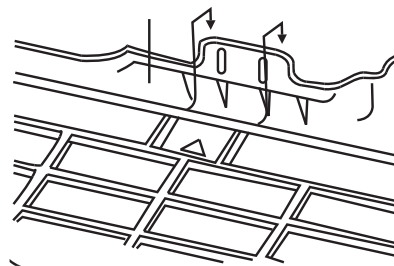
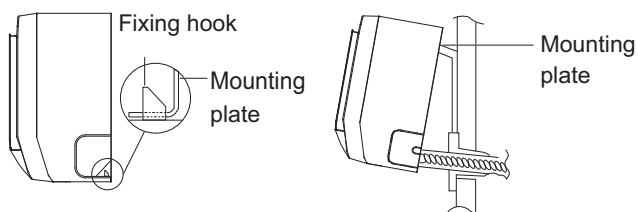

Fig. 15 – Hanging Indoor Unit
Fig. 18 – Hang Indoor Unit
4. Hang indoor unit on upper hooks of wall mounting plate (as shown in Fig. 15 and Fig. 18).